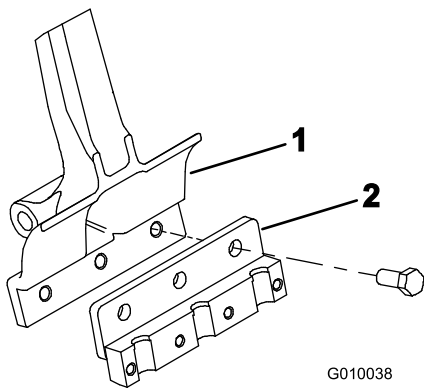

Figure 22
3. Mount a tine holder to each tine arm with 3 bolts (1/2 x 1-1/4 inches) (Figure 22). Torque the bolts to 101.6 N·m (75 ft-lb).